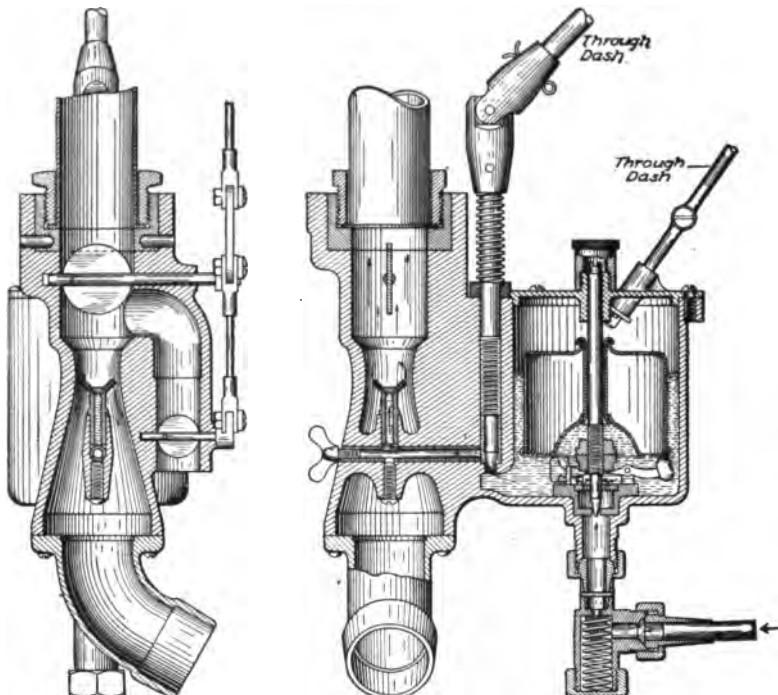

Fig. 70. Carburetor of Compensating Type, Admitting Increased Supply of Air as Speed of Engine Increases.
*Compensating Carbureters.* The faster the engine speed, the greater will be the suction in the carbureter pipe, hence the greater the amount of gasoline drawn in. This will result in too rich a mixture for satisfactory operation. To provide for this, carbureters of the *compensating* type have a by-pass, as shown in Fig. 70. As the throttle-valve is opened wider, the by-pass valve gradually opens also, so that extra air is furnished the mixture, thus diluting it as the engine speeds up, and maintaining it at proper quality for all conditions of running.